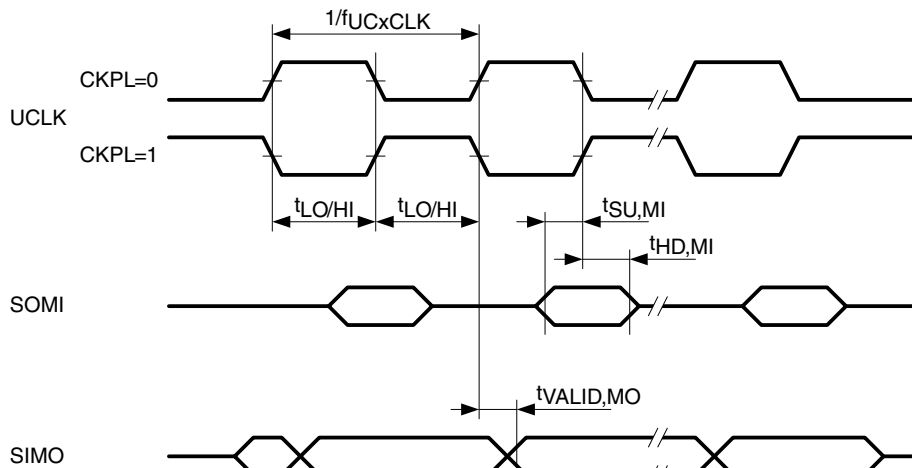
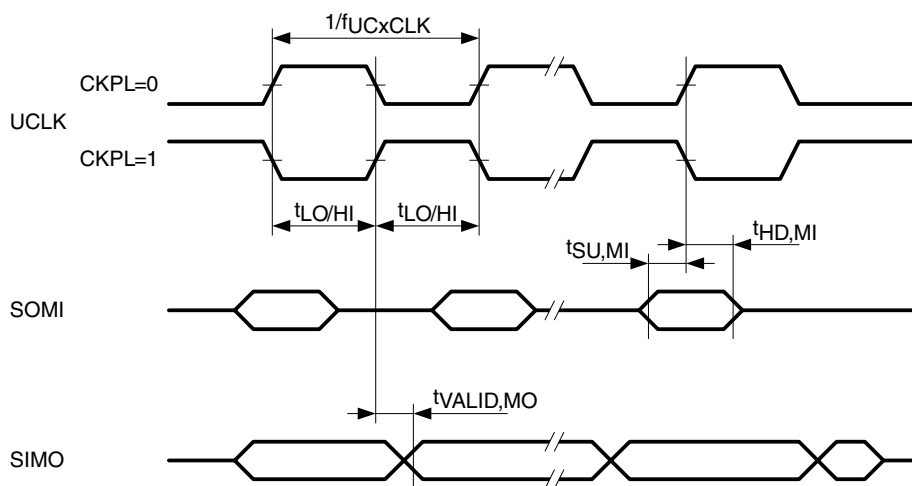

Figure 21. SPI Master Mode, CKPH = 0
Figure 22. SPI Master Mode, CKPH = 1
**USCI (SPI master mode) (see Figure 21 and Figure 22)**